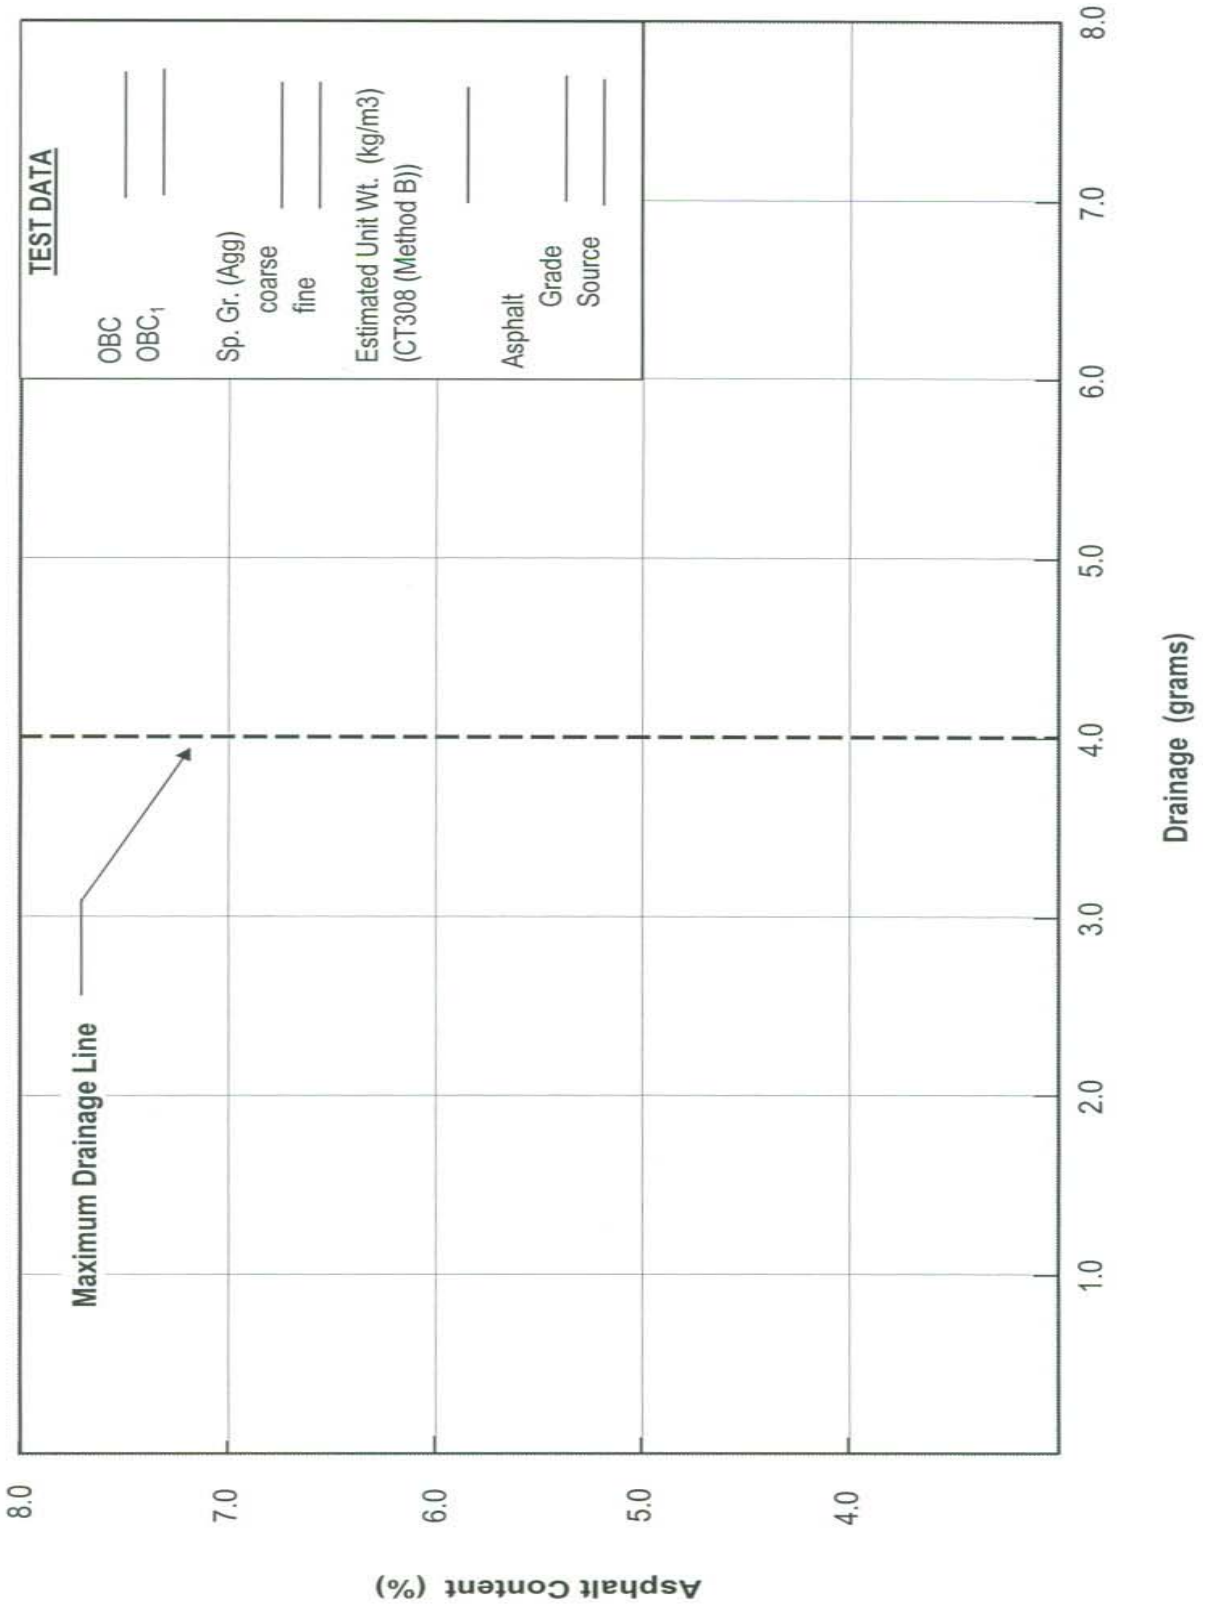

FIGURE 3. Open Graded OBC Worksheet
14. Plot the average drainage for each asphalt content on the form in Figure 3 and connect the successive points using a straight edge.
Report OBC and OBC_1 , bulk specific gravity of coarse aggregate (California Test 206), bulk specific gravity of fine aggregate (California Test 207), bulk specific gravity and density (unit weight) (California Test 308, Method B), and the asphalt binder grade and source on Figure 3 (Form TL-601).